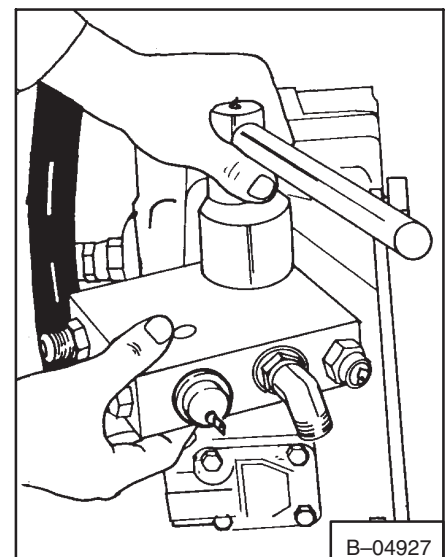

Fig. 3-33 Removing Bolt
4. Remove the small bolt from the port block. Remove the large bolt at the top of the port block (Fig. 3-33). Use tool MEL1193.
2. Install the port block on the hydraulic pump and tighten the large bolt (Fig. 3-33) so there will be no leakage at 200 PSI (1379 kPa).